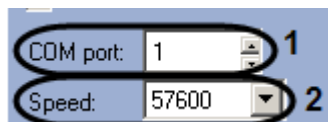

Fig.3.2-3 Configuration of the AAN controller's COM-port connection
- 3.1 In the **COM port** field, enter the number of the COM port used to connect the AAN controller to the Server (Fig.3.2-3, 1).
- 3.2 From the **Speed** dropdown list, select the speed of the AAN controller's COM-port connection (see Fig.3.2-3, 1).